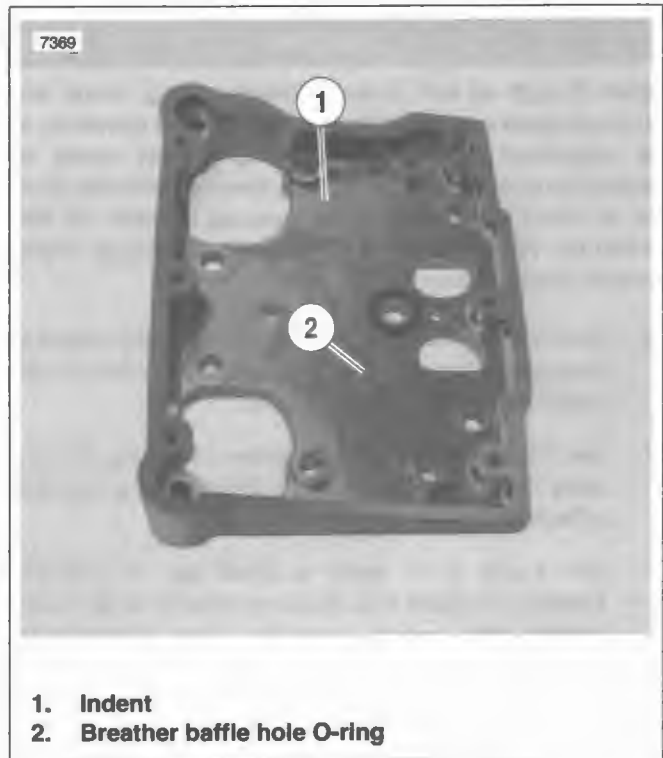

Figure 3-42. Rocker Housing Alignment
7. See Figure 3-42. With the indent (1) facing forward, place the rocker housing into position aligning the holes in the housing with those in the gasket.
9. See Figure 3-42. Apply a very thin film of clean H-D 20W50 engine oil to **new** baffle hole O-ring (2). Install **new** O-ring in groove around breather baffle hole in rocker housing.